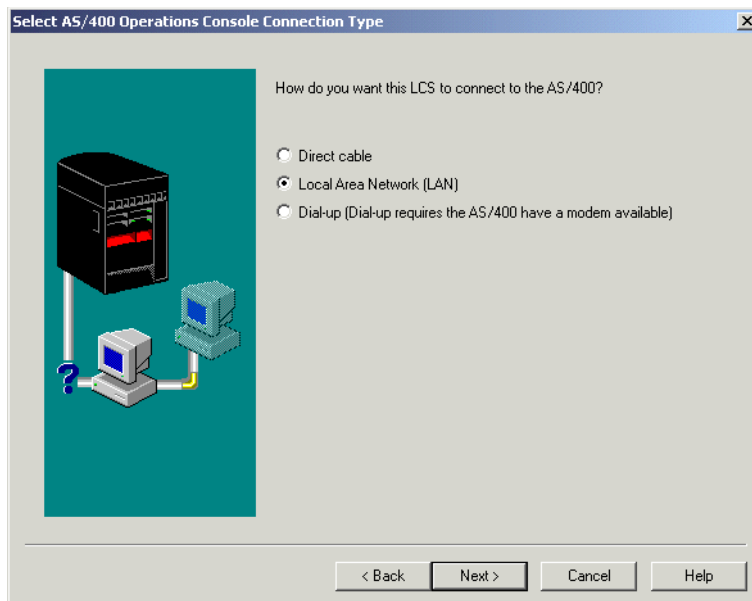

Figure 7-34 Select AS/400 Operations Console Connection Type display (secondary)
4. The next display (Figure 7-34) asks you to specify how you want the LCS to connect to the AS/400 system. Click **Local Area Network (LAN)**. Then, click **Next**.